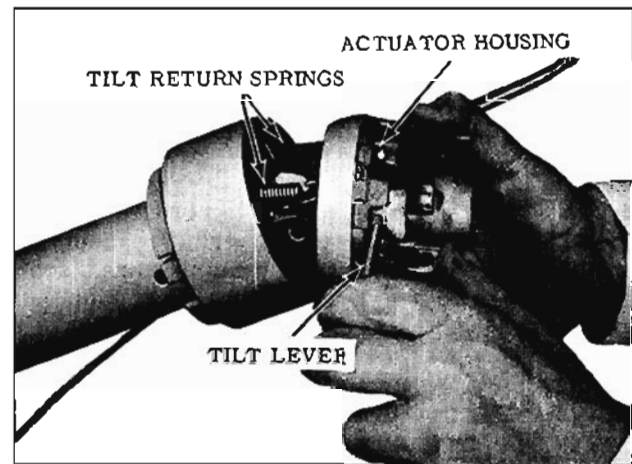

Fig. 8-99 Removing Actuator Housing
9. Slightly lift the tilt lever to disengage the lock shoes from the pins and remove the actuator housing, then remove the tilt return springs and the upper shaft lower bearings. (Fig. 8-99)